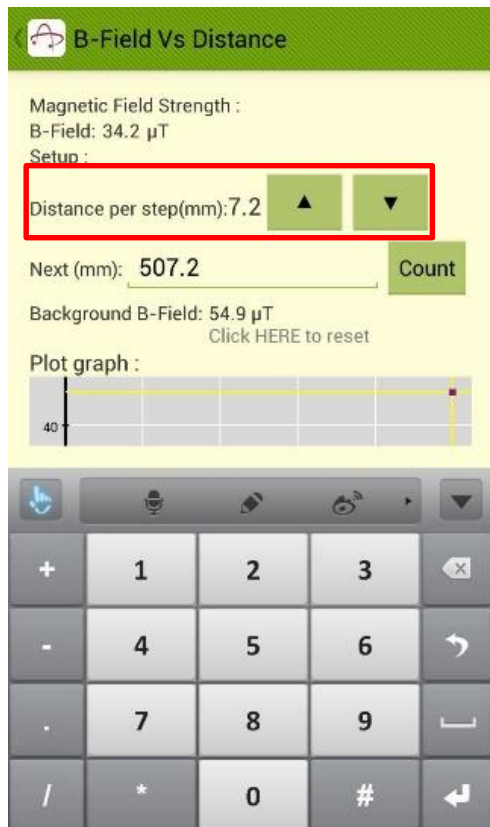

Fig 5.15
- If you are not taking measurements at every fixed distance, or if you are taking measurement at large distance, you can type the desired distance directly in the field “Next” (Fig 5.15), and press “Count” to record data at that distance. In the example below, 500.0mm is recorded after 26.6mm.